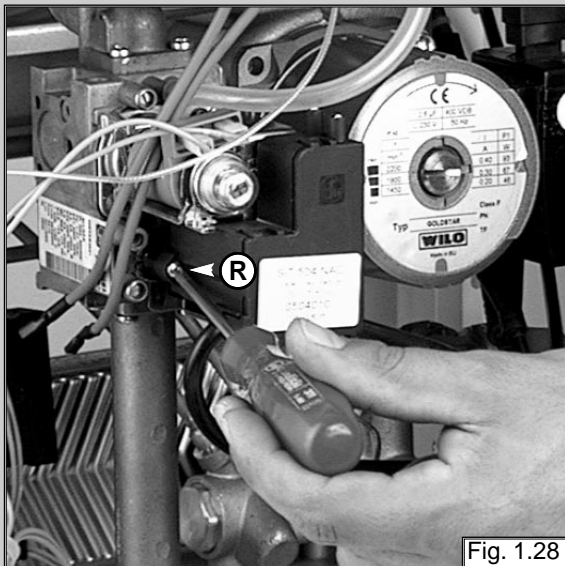

Fig. 1.28
2. Remove the screws "R" (see fig. 1.28) with a Pozidrive No. 2 star tip screwdriver;